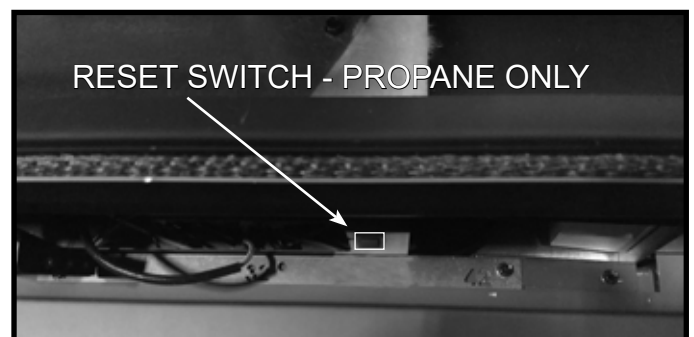

Figure 3.8 Reset Switch Location - Propane Only
For propane applications, the appliance has a hard lockout and the IFT-ECM must be reset. This appliance has a reset switch located inside the control cavity for propane applications. See Figure 3.8 for approximate location.
- Locate reset switch inside the appliance. See Figure 3.8.